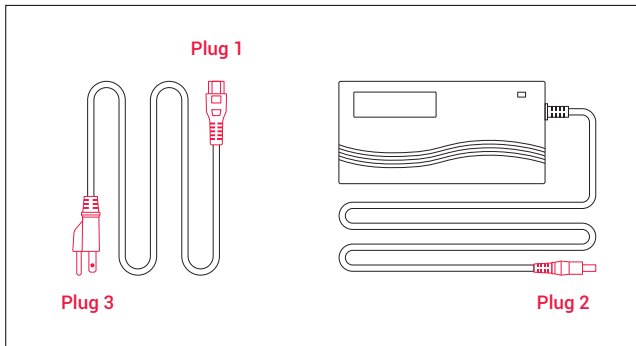

Figure 8
**Step 2:** Assemble the charger as shown in Figure 8 by inserting the plug (Plug 1) into the transformer.